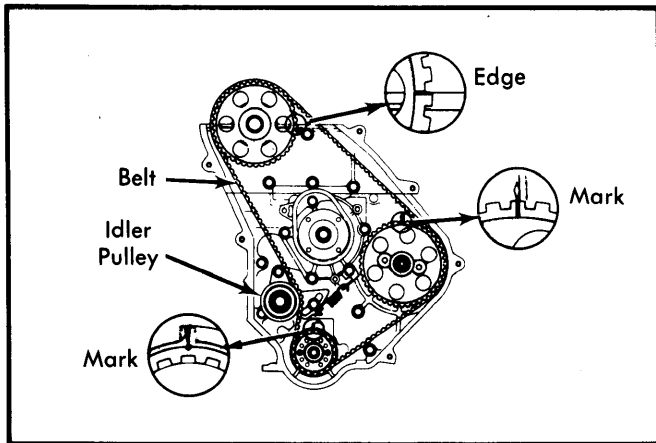

Fig. 8 Injection Pump Pulley Alignment
2) Pull off crankshaft pulley, then remove timing belt cover and guide. Turn engine to align timing belt pulleys at each position. See Fig. 8.